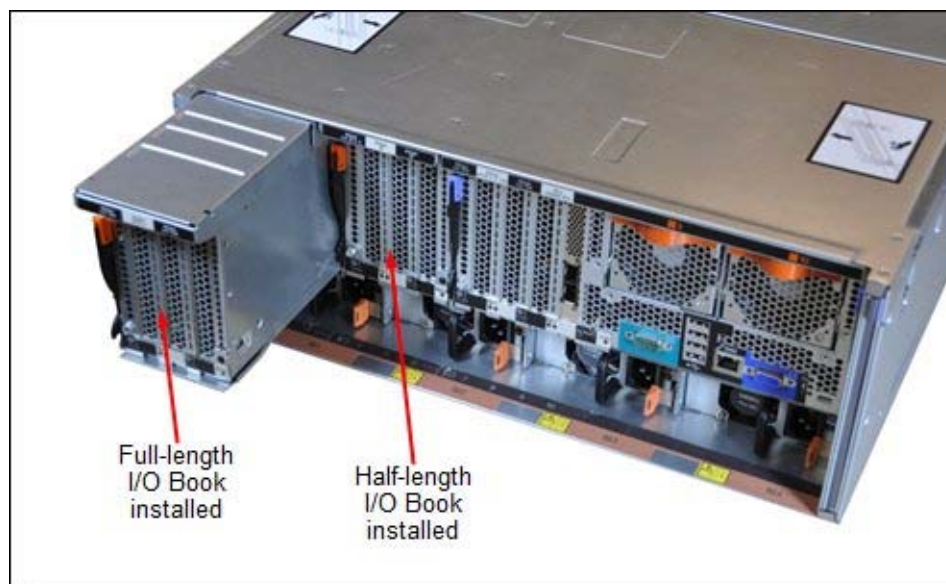

Figure 12. I/O Books that are installed in the x3850 X6
- These adapters are not available through CTO and cannot be shipped installed in the server because they are installed in the Full-length I/O Book, which extends beyond the rear of the chassis (see Figure 12). These adapters must be shipped separately from the server. Order the adapter and Full-length I/O Book as separate options.